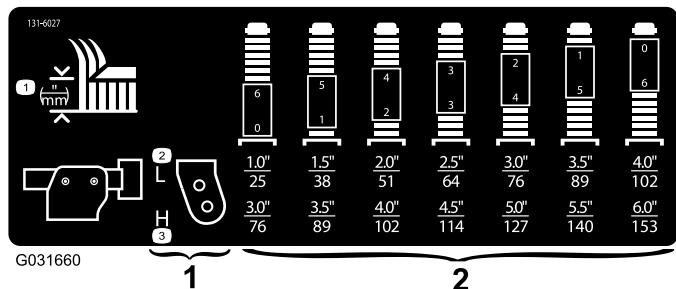

Figure 16
3. Position the caster-wheel axles in the same holes in all of the caster forks; refer to the chart (Figure 16) to determine the correct holes for the setting.
Note: Refer to the chart to determine the combinations of spacers for the setting (Figure 16).